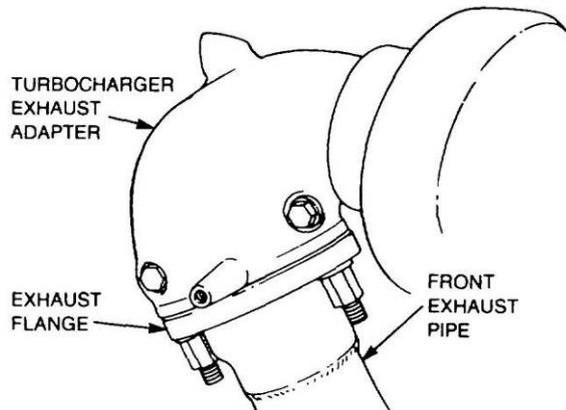

Figure 57 Removal of the Front Exhaust Pipe
- l.** Remove the three nuts securing the front exhaust pipe to the turbocharger exhaust adaptor flange. Discard the sealing ring (Figure 57).